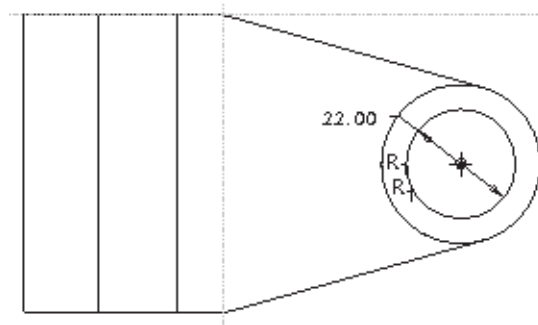

Figure 4-102 Sketch with dimensions and constraints
2. Draw the sketch using various sketcher tools and add the required constraints and dimensions to it, as shown in Figure 4-102.